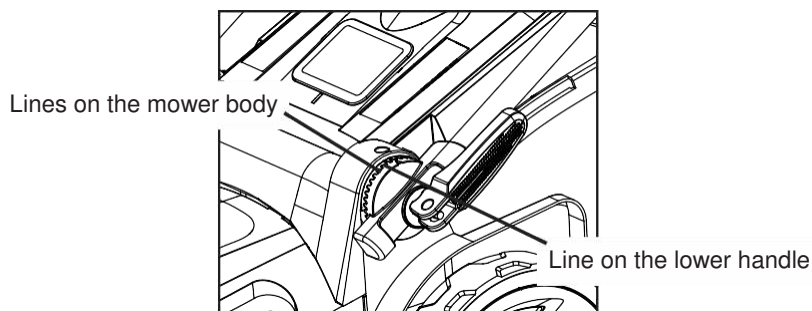

Fig. 1
1. Adjust the lower handle to the correct position for comfortable height, by aligning the line on the mower body with one of the three lines on the end of the lower handle. Fit the quick clips through the lower handle, and tighten (See Fig. 1).